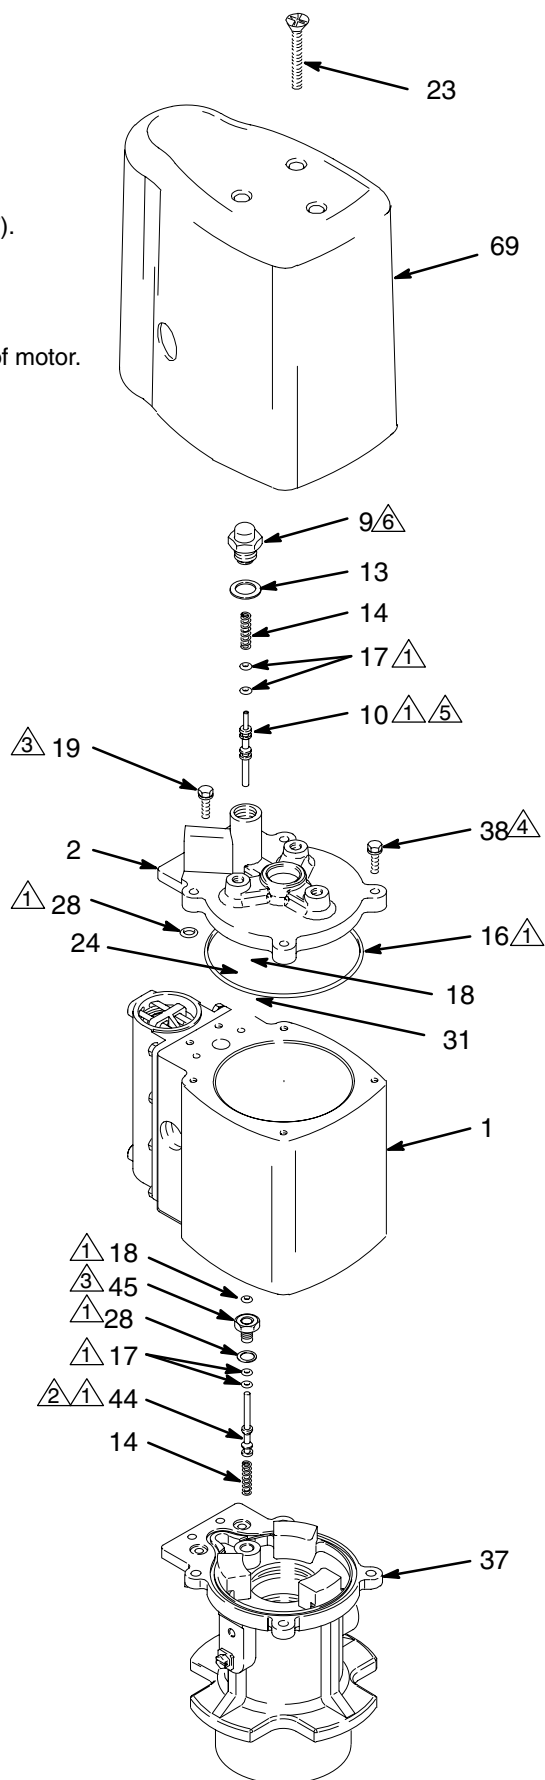

Fig. 7
1. Remove the three screws (23) holding the cover (69) to the air motor cylinder (1) and remove the cover.
2. Remove the upper actuator valve plug (9) from the top cap (2). Thread the sealing gasket (13) off the plug (9). See Fig. 7.
3. Pull the spring (14) and pin (10) out of the top cap (2). Remove the two o-rings (17) from the pin.
4. Remove the four screws (38) and two screws (19) holding the top cylinder cap (2) to the cylinder (1). Remove the large o-ring (16) and two small o-rings (28) from the cap. Remove o-rings (17) and (24) and pilot plug (31). Remove the o-ring (18) from the inside of the top cap.
5. Remove the lower actuator valve plug (45) from the motor base (37). Remove the o-ring (28) from the plug (47). Remove the o-ring (18) from the plug. See Fig. 7.
6. Remove the actuator pin (44) and spring (14). Remove the two o-rings (17) from the pin.
1. Grease the o-ring (18), and install it in the lower actuator plug (45). Install the o-ring (28) onto the plug. See Fig. 7.
2. Install the spring (14) in the motor base (37). Install the two o-rings (17) on the lower actuator pin (44). Grease the pin and o-rings and install the pin in the base with the long end pointing out of the base.
3. Screw the plug (45) into the motor base (37). Torque to 14 to 17 in-lb (1.6 to 1.9 N.m).
4. Grease the two small o-rings (28) and the large o-ring (16). Install them in the recesses of the top cap (2). Replace o-rings (17) and (24) and pilot plug (31). Grease the o-ring (18), and install it in the inside of the top cylinder cap (2). See Fig. 7.
5. Install the top cap (2) on the cylinder (1). Install the four screws (38), and torque to 35 to 45 in-lb (4.0 to 5.1 N.m). Install the two screws (19), and torque to 14 to 17 in-lb (1.6 to 1.9 N.m).
6. Install the two o-rings (17) on the pin (10). Grease the pin and o-rings, and insert the pin in the top cap (2). The long end must point toward the inside of the motor.
7. Thread the gasket (13) onto the plug (9). Install the spring (14) in the top cap (2). Screw the plug into the top cap and torque to 60 to 70 in-lb (6.8 to 7.9 N.m).
8. Replace the cover (69) on the air motor and fasten it to the air motor cylinder (1) using the three screws (23)